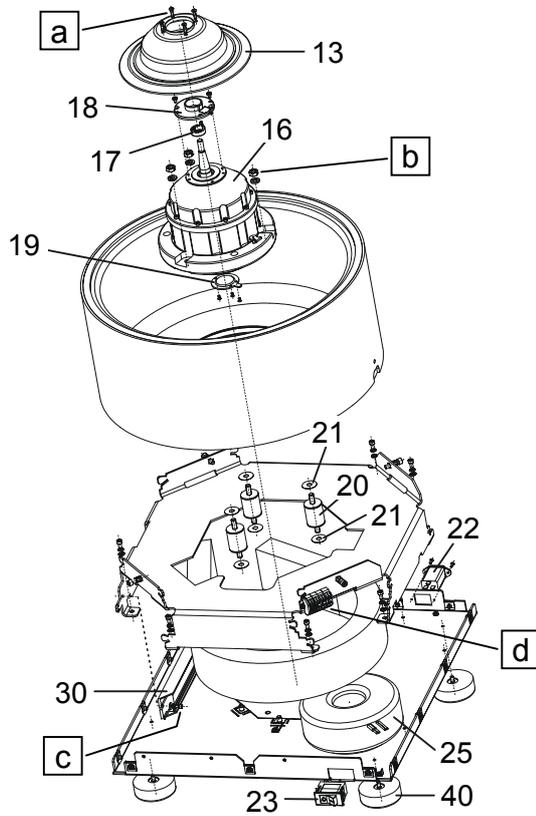

Fig. 3
- Undo the 4 screws (pg. 77, Fig. 3, a ; pg. 78, Fig. 5, a) on the motor cover and remove the motor cover.
- Unscrew the speed sensor (pg. 77, Fig. 3, item 18 ; pg. 78, Fig. 5, item 18) from the upper end plate of the motor (2 screws) and place it in the centrifuge chamber.
- Unscrew the 3 nuts (pg. 77, Fig. 3, b ; pg. 78, Fig. 5, b) on the lower end plate of the motor.
- Unscrew the speed sensor / imbalance sensor (pg. 77, Fig. 3, item 19 ; pg. 78, Fig. 5, item 19) at the bottom of the motor (3 screws).
While mounting the rubber-metal bearings, make sure that there is an anti-twist device (pg. 77, Fig. 3, item 21 ; pg. 78, Fig. 5, item 21) on both sides of the bearing to prevent it from turning.
- Unscrew the speed sensor (pg. 77, Fig. 3, item 18 ; pg. 78, Fig. 5, item 18) from the upper end plate of the motor (2 screws).